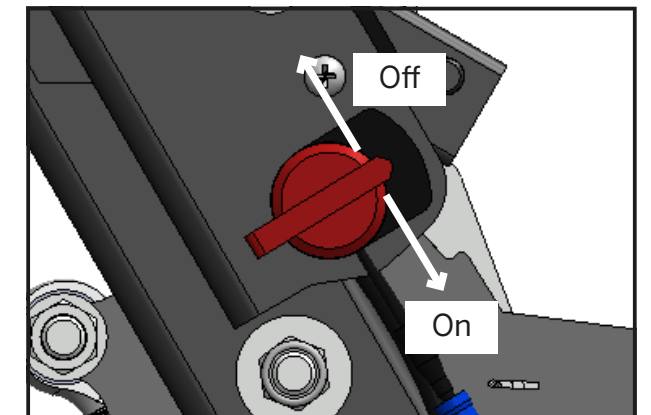

Figure 10.4.1
1. Turn the engine switch located on the right-hand side of the steering column to the ON position (See figure 10.4.1).